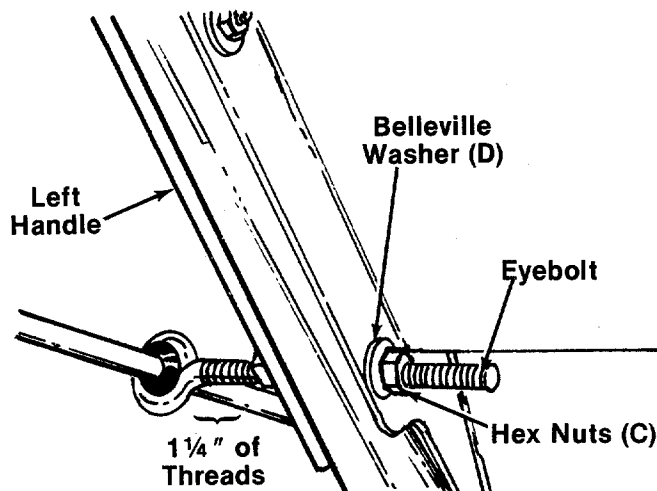

FIGURE 5.
6. Thread one hex nut (C) onto the eyebolt on the chute crank assembly until there is approximately 1 1/4" of threads showing between the nut and the head of the eyebolt. See figure 5.
7. Place the eyebolt into the hole in the left handle and handle panel. See figure 5. Secure with belleville washer (D) (cupped side against the handle panel) and hex nut (C). Tighten securely.